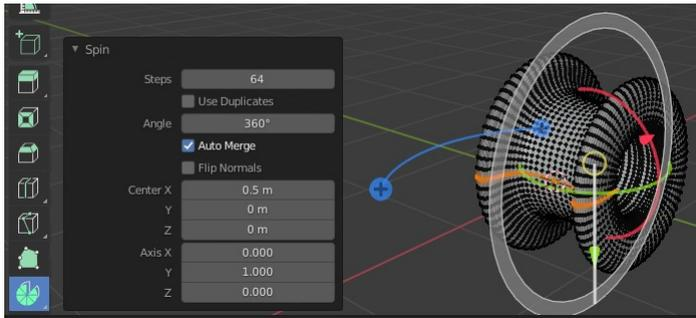

Figure 4-6 Spinning a ring from a mesh
For this exercise we want the first behavior but as an example of the second: if you had converted the Bézier curve object from the first exercise in **Chapter 3** into a Mesh, you could have use the Spin Tool to make it into a ring as shown in Figure 4-6.
2. First create some duplicates by dragging on one of the blue plus buttons at either end of the blue arc (visible in the center of Figure 4-6). It doesn't matter how far you drag it because you will set specific values afterwards.